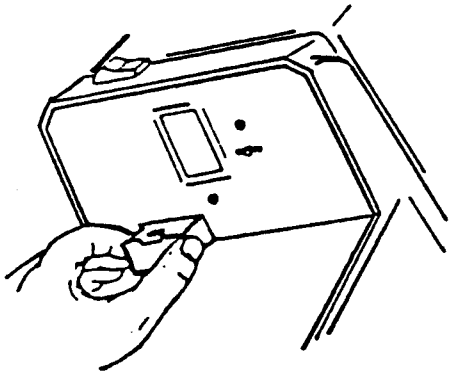

Fig. 8
1. To remove condensation drains, push in on front panel just under drain and pull down with fingers (see Fig. 8).